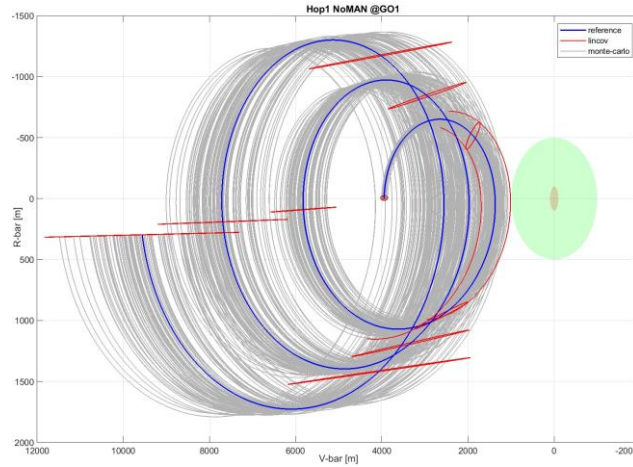

Fig.2
- servicer does not re-enter the AZ in case of no “GO for AZ” (Fig.2)